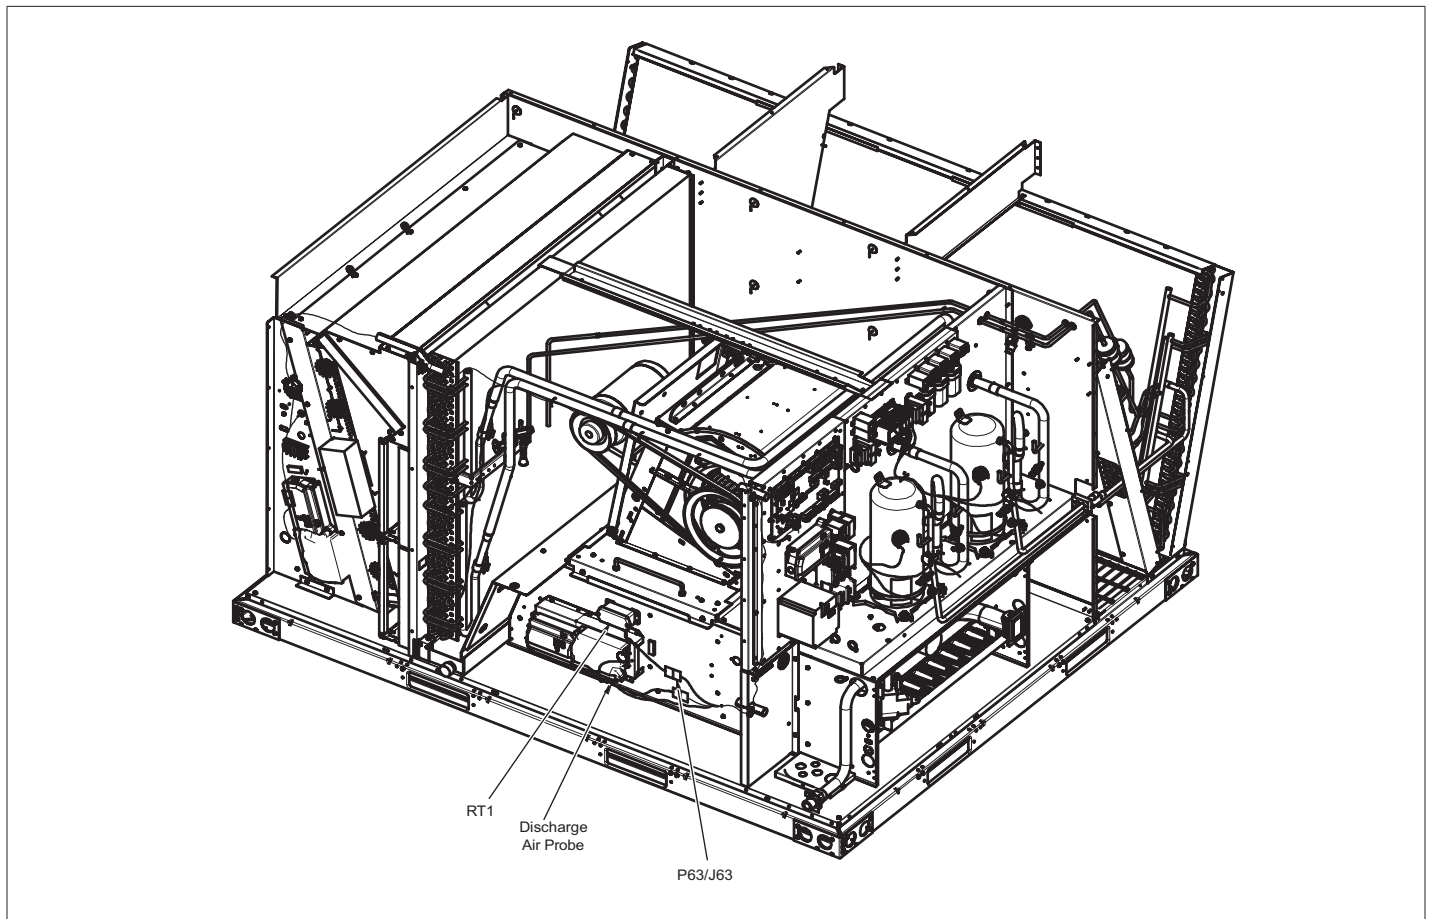

Figure 8. Routing J63 RT1 Harness (120,240 Units)
- 120/240 units: see "Figure 8. Routing J63 RT1 Harness (120,240 Units)" on page 4.